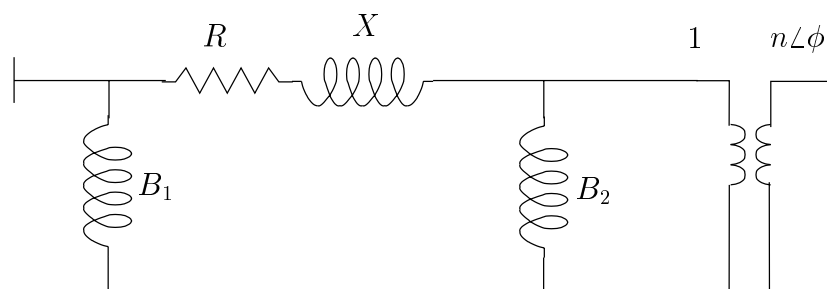

Figure 2.2: transformer equivalent
Transformers are represented by the equivalent shown in Fig. 2.2. B_1 or B_2 can represent the magnetizing reactance. Normally one of these two parameters is zero. n (resp. ϕ) is the magnitude (resp. the phase angle) of the transformer ratio.
Now, the R, X, B_1, B_2 parameters of Fig. 2.2 are often provided by the manufacturer in per unit on the V_{N1} base voltage. The corresponding per unit values on the V_{B1} base voltage are given by:
The transformer can have a variable ratio, adjusted automatically so as to maintain the voltage in the range $[V^0 - \epsilon, V^0 + \epsilon]$ where V^0 is the setpoint and ϵ half the deadband. The regulated bus can either be the left or the right bus in Fig. 2.2; the ratio varies accordingly. The parameters R, X, B are considered constant when n varies.
- * FROM_BUS (max 8 characters) : name of the bus on the “1” side of the ideal transformer (cf Fig. 2.2)
- * TO_BUS (max 8 characters) : name of the bus on the “n” side of the ideal transformer (cf Fig. 2.2)